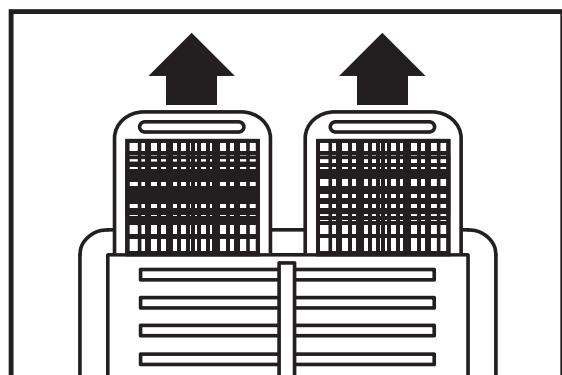

Fig. 14
- **5.2.2.** Remove the filters upwards (Fig. 14).